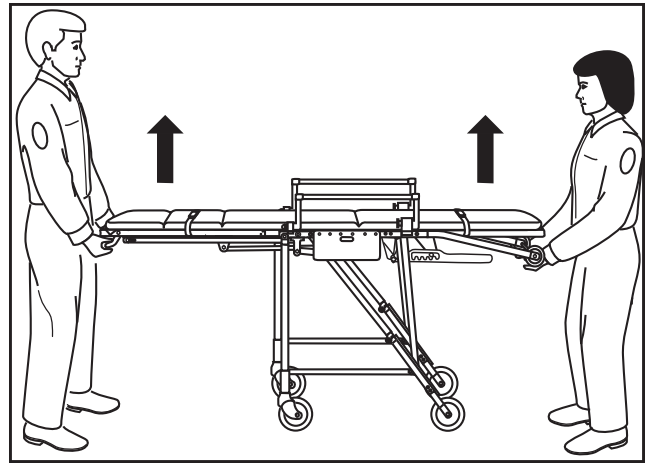

Figure 9 - Unfolding the Cot
3. Both operators lift the cot until all four transport wheels are off the ground (Figure 9). This allows the undercarriage lock to engage if it has not already done so. Set the cot onto its transport wheels after the legs have locked.